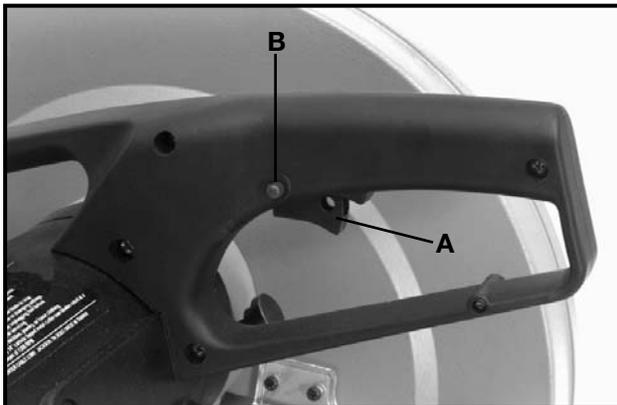

Fig. 6
1. Squeeze trigger switch (A) Fig. 6, to start motor. Release trigger switch to stop motor.
2. A lock button (B) Fig. 6, is provided to lock the switch in the ON position.